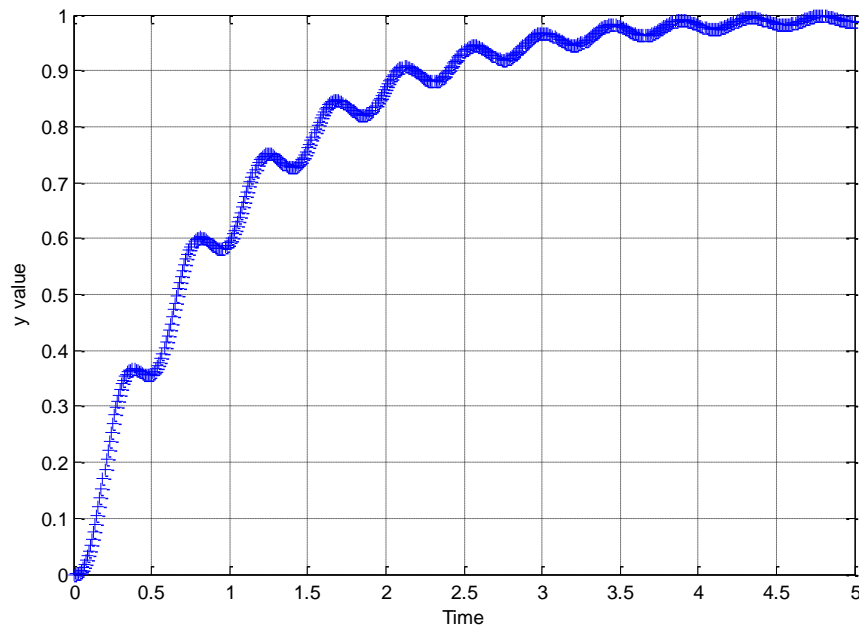

Figure 2. Results of the Matlab simulation for the integral controller.
g) If you run the simulation for 5 seconds (and only plot the Matlab results), you should get the plot shown in Figure 2.